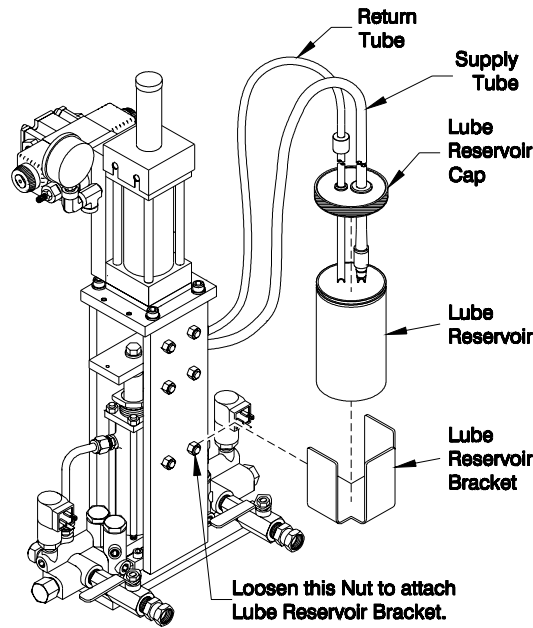

Figure 7. Lube Reservoir Installation
5. Set up the Isocyanate Pump Lube System as follows (see Figure 7):